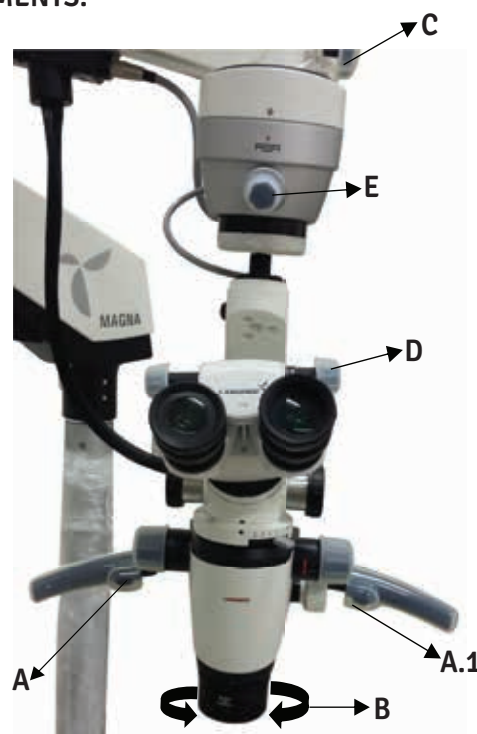

Fig. 19
- Optimize the Auto Balancing Arm (ABA) position by using clutch motions shown as (A) and (A.1) to get the proper field of vision as shown in Fig. 19.
- Desired working distance can be obtained by rotating the ring shown as (B) on the variable objective lens. Fine focusing can be done by the same ring as shown in Fig. 19.
- After focusing, lock swivel arm, suspension arm and ABA arm movements using lock knobs shown as (C) in Fig. 19.
- Adjust the inter- pupillary distance (IPD) of the eyepieces using the IPD adjustment knob shown as (D) in Fig. 19.
- The illumination is controlled through the intensity control knob shown as (E). Rotate it clockwise or anticlockwise to achieve the desired illumination level as shown in Fig. 19.
- Refer Fig 19 Use the Clutch Buttons shown as (A) on Left handle and (A.1) on Right handle to Centre the area of interest in the field of view.